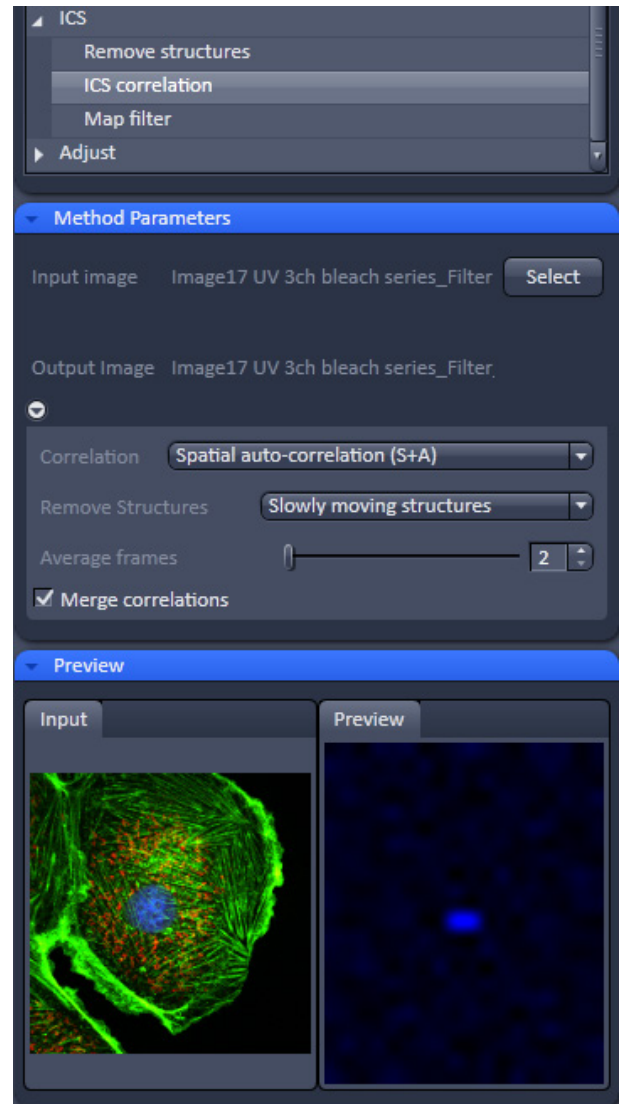

Fig. 421 Processing – ICS correlation
- Activate **ICS correlation** in the **ICS** tool. The **ICS correlation** menu will appear (Fig. 421).